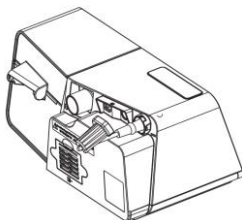

Fig. 12-5
- (1) Connect the device to power according to 12.3 Connecting to Power.
(2) Clip the narrow end of the power cord locker to the cord of the power adapter, as shown in Fig. 12-5.